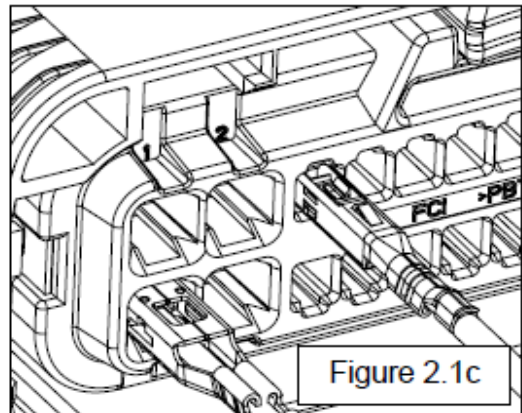

Figure 2.1c
- Orient the female terminals correctly with each terminal position opening in the retainer of female connector assembly as shown in figure 2.1c. The APEX 2.8 terminals can